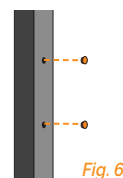

Fig. 6
6. Once fencing is finished, insert **Post Hole Plugs** into unused post holes to help prevent water leaking into posts (Fig. 6).